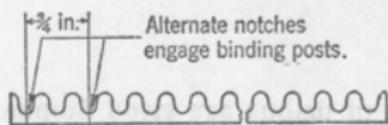
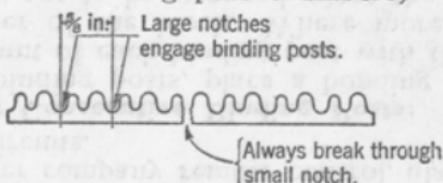

Fig. 1.
Fig. 2.
1.04 The two types of bonding ribbon available for use in strapping binding posts are shown in Fig. 1 and Fig. 2: